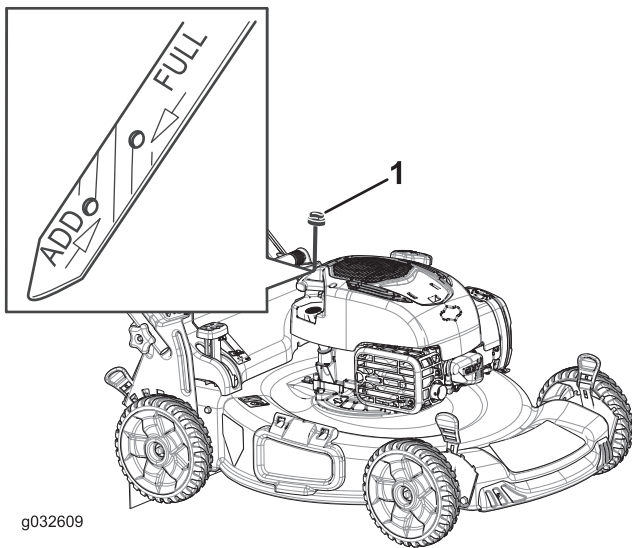

Figure 30
2. Remove the dipstick (Figure 30).
4. **Slowly** pour oil into the oil-fill tube until the oil level reaches the **Full** line on the dipstick (Figure 30). **Do not overfill.**